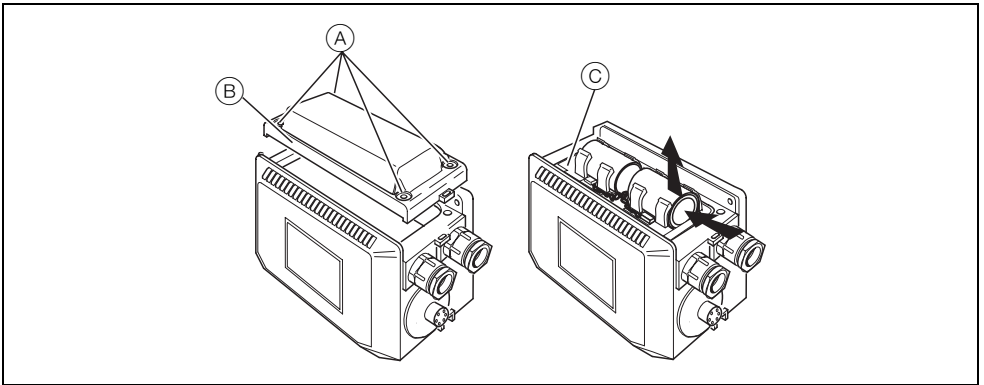

Fig. 2.1 Removing the AquaMaster Cover
2. Disconnect and withdraw the sensor cable (A).
3. Remove and discard the gland (B).
4. Feed the socket lead into the AquaMaster and fit the socket (MGFA0609-S) (C).
5. Connect the sensor cable (D).
6. Replace the covers – see Fig. 2.1, page 1.
2. Disconnect and withdraw the pulsed output cable (A).
4. Feed the socket lead into the AquaMaster and fit the socket (MGFA0609-O) (C).